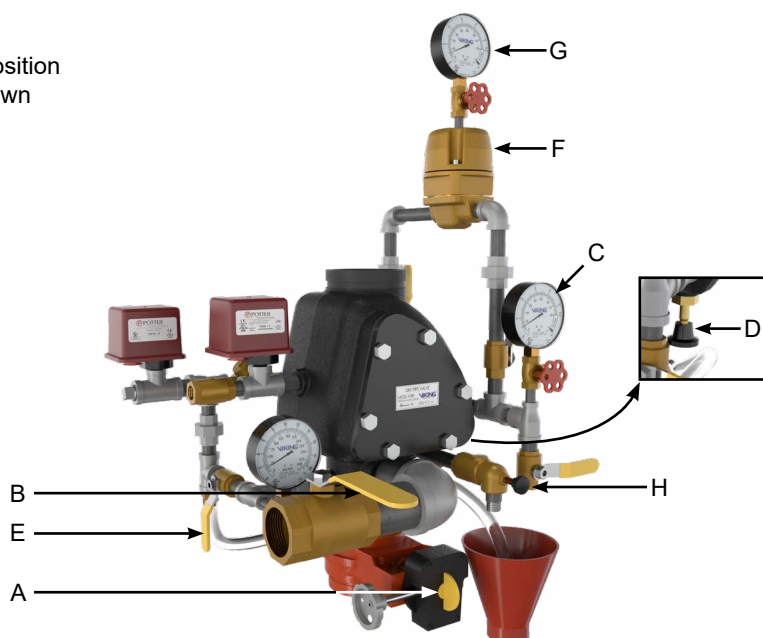

Figure 6: System Placed in Service
4.6 Placing the System in Service (Refer to Figure 6)